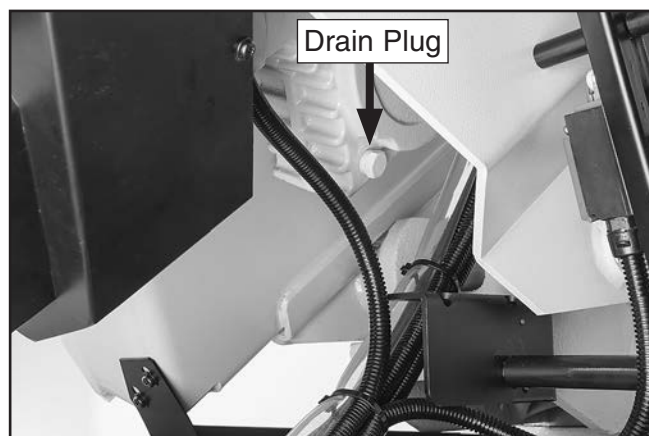

Figure 68. Location of drain plug.
5. Place drain pan under drain plug, then remove drain plug (see **Figure 68**) and drain oil.